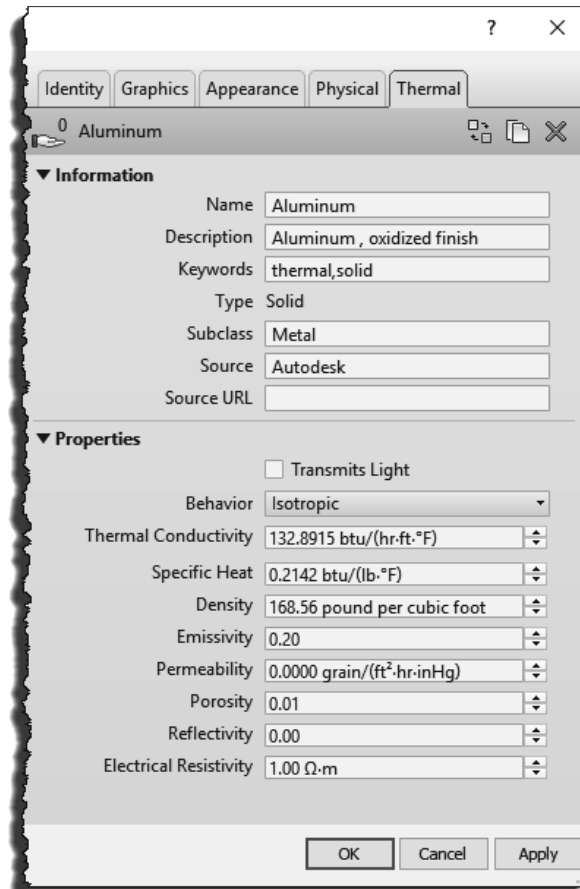
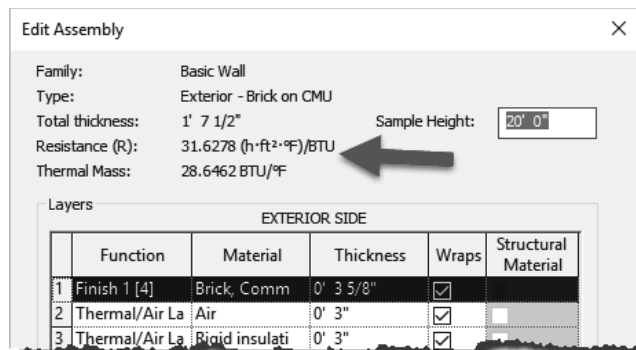

FIGURE 4-2.16 Material Browser: Thermal tab
FIGURE 4-2.17 Thermal calculations in wall assembly
The *Thermal* aspect of a *Material* is used in energy modeling calculations (Figure 4-2.16). The basics are computed directly within Revit, such as the R-Value and Thermal Mass of a wall or floor (Figure 4-2.17). More advanced calculations can be derived in external applications.
**FYI:** Deleting all the Thermal assets from your *Materials* will cause the calculated values, shown in Figure 4-2.17, to be blank.